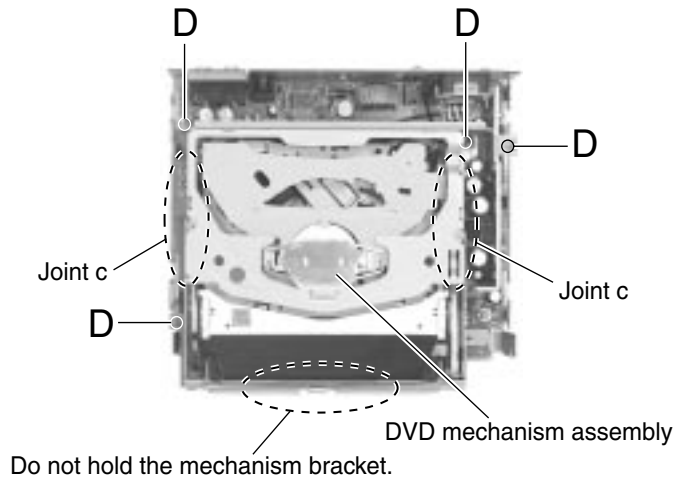

Fig.7
■ Removing the DVD mechanism assembly (See Fig.7 to 11)